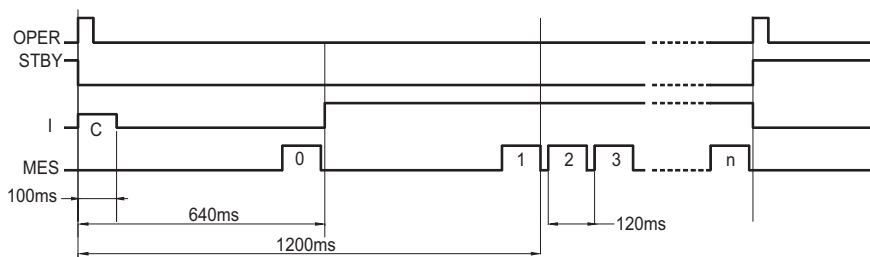

Figure 4-5
- The current (I) is switched on at the start of a measurement and remains on continuously until the unit is manually returned to the Stand-by state by pressing the **START/STOP** button.
- All subsequent measurements comprise only a V_n measurement as V_0 remains in memory. The timing sequence for measurement is shown in Figure 4-5.